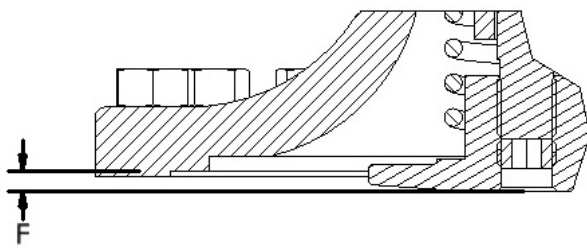

Figure 7: F Dimension Detail
16. Verify that the diaphragm plate setting is correct. See dimension F, Figure 7, and confirm that it is set to the value shown in the table.